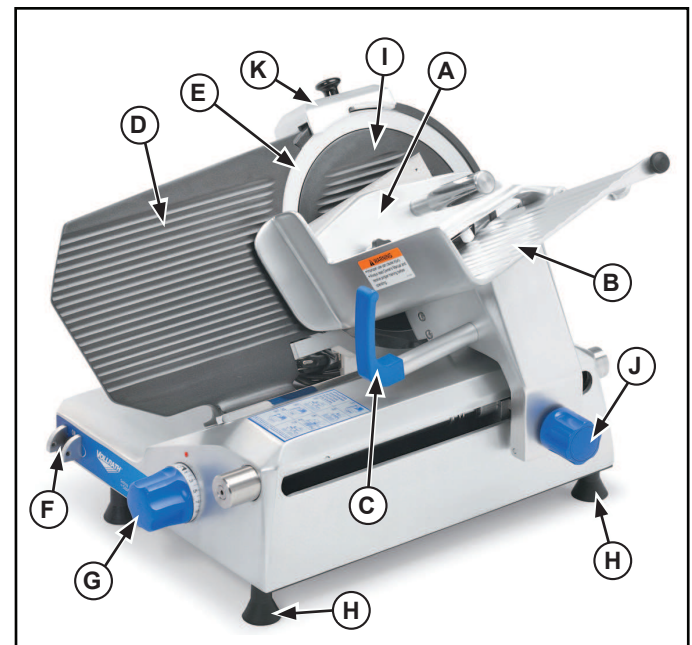
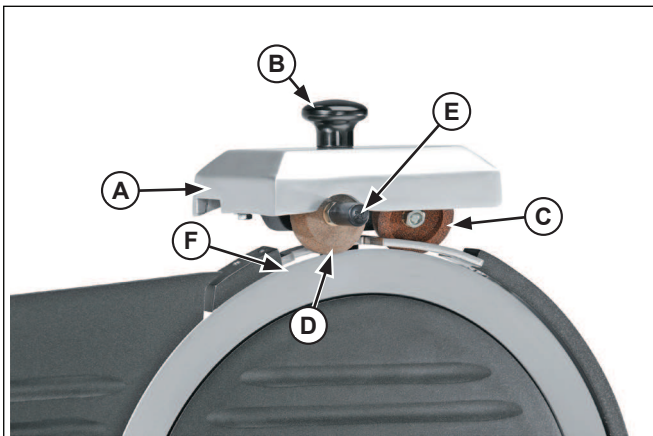

Figure 1. Features and Controls
Figure 7. Sharpening Assembly and Blade, in Sharpen Position
1. Slide the product tray (B) to the load/start position (closest to the operator). See Figure 1.
2. Lift the food pusher (A) and place the food product to be sliced on the product tray (B) in contact with the gauge plate (D).
3. Place the food pusher (A) either on top or behind product to be sliced.
4. Set the desired thickness of slice using the regulator knob (G).
5. Switch the on/off switch (F) to the "ON" position.
6. Using the product tray handle (C) push the product tray (B) back and forth to slice the food.
7. When finished slicing, turn the on/off switch (F) to the "OFF" position.
8. Set the thickness to "0" using the regulator knob (D).
3. Turn the regulator knob (G) to the "0" position. See Figure 1.
1. Turn the on/off switch (F) to the "OFF" position. See Figure 1.
4. Turn the on/off switch (F) to the "ON" and resume operation.
2. Turn the regulator knob (G) to the "0" position.
3. Clean the blade (E) following the *Cleaning Section* of this manual.
4. Use the knob (B) to lift the sharpener head (A) and rotate it 180° to the sharpen position. See Figure 7.
5. Push the sharpening assembly (A) down firmly so that the angled wheel (C) is pressed against the blade (E).
6. Turn the on/off switch (F) to the "ON" position for 30 seconds. See Figure 1.
7. At the end of the 30 second sharpening cycle, and push the de-burring stone button (E) to gently push the stone (D) against the blade (F), for approximately 2 seconds. See Figure 7.
8. Turn the on/off switch (F) to the "OFF" position. See Figure 1.